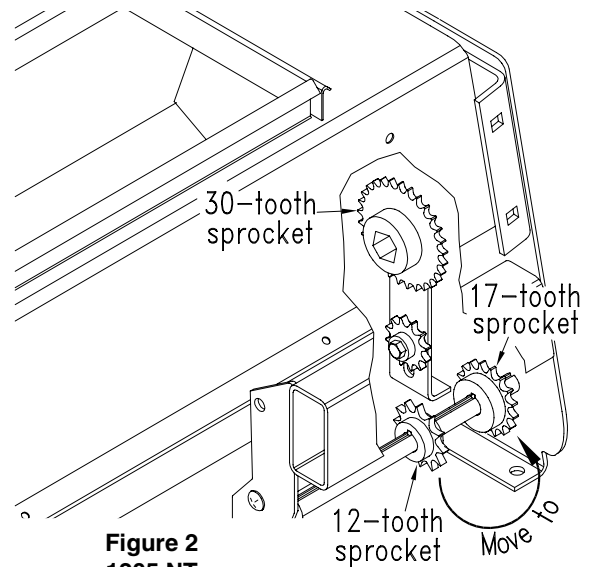

Figure 2
2. Remove the 17-tooth sprocket and move the 12-tooth sprocket in its place. See Figure 2.
3. Refer to Figures 2 and 3. Install the 19-tooth sprocket from the kit where the 12-tooth sprocket was.
4. Refer to Figures 2 and 3. Remove the 30-tooth sprocket and replace it with the 27-tooth sprocket from the kit.